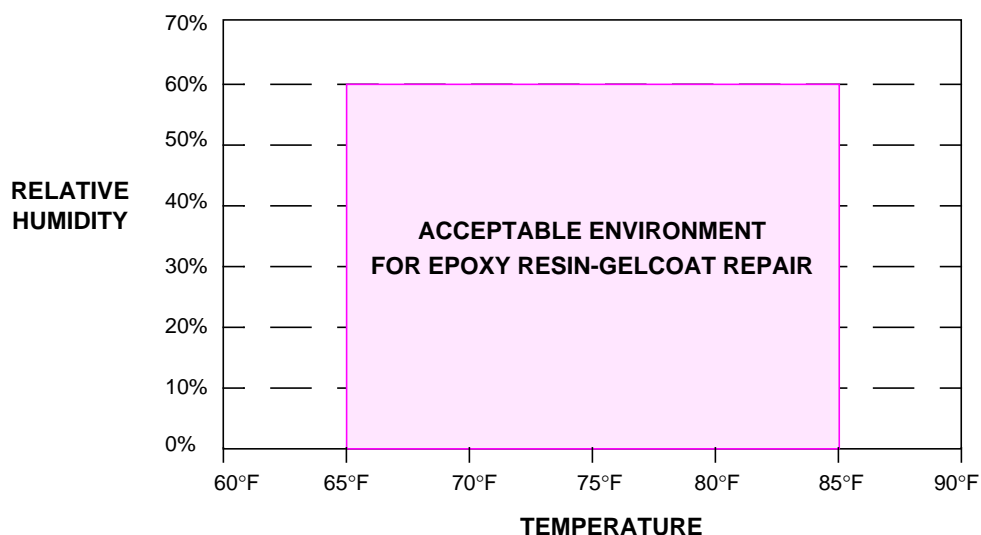

FIGURE 11 - TEMPERATURE AND RELATIVE HUMIDITY LIMITS FOR THE EPOXY RESIN-GELCOAT REPAIR AREA
- 6.2.2 Maintain the temperature and relative humidity of the structural repair area within the range specified in Figure 11. Repairing when the relative humidity is below 30% will increase the chance of static discharge and worker discomfort, but will not affect part acceptability. Record the temperature and relative humidity of the epoxy resin-gelcoat repair area on continuous chart recording equipment.